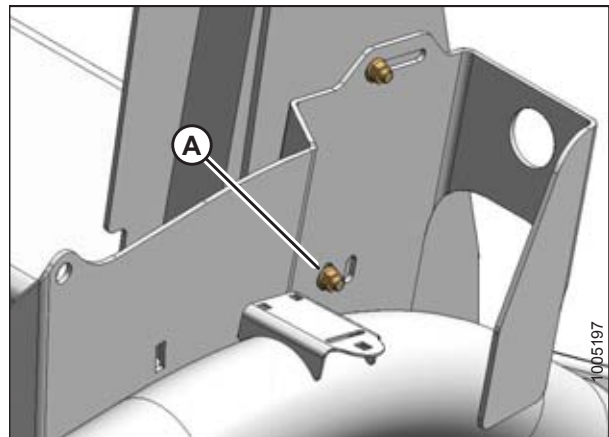

Figure 3.58: Hose Support
4. Position the hose support with lower bolt (A) in the forward hole as shown in Figure 3.58, page 46. Loosen both bolts and adjust as required.